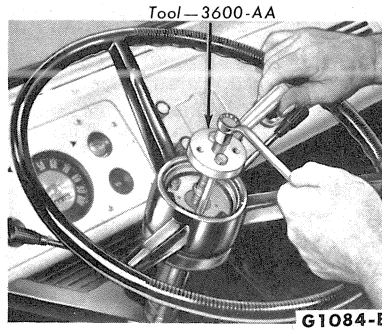

FIG. 4—Removing Steering Wheel
2. Remove the nut from the end of the steering shaft, and remove the steering wheel from the shaft with the tool shown in Fig. 4.